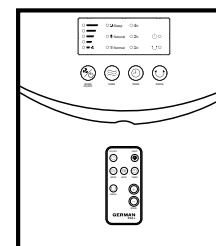

Figure 3
- Please turn the remote control transmitter to the control panel receiver, and then perform the button operation (Figure 3). The maximum remote control distance is about 3 meters, there is no obstacle between the remote control and the body, otherwise it will affect the operation.